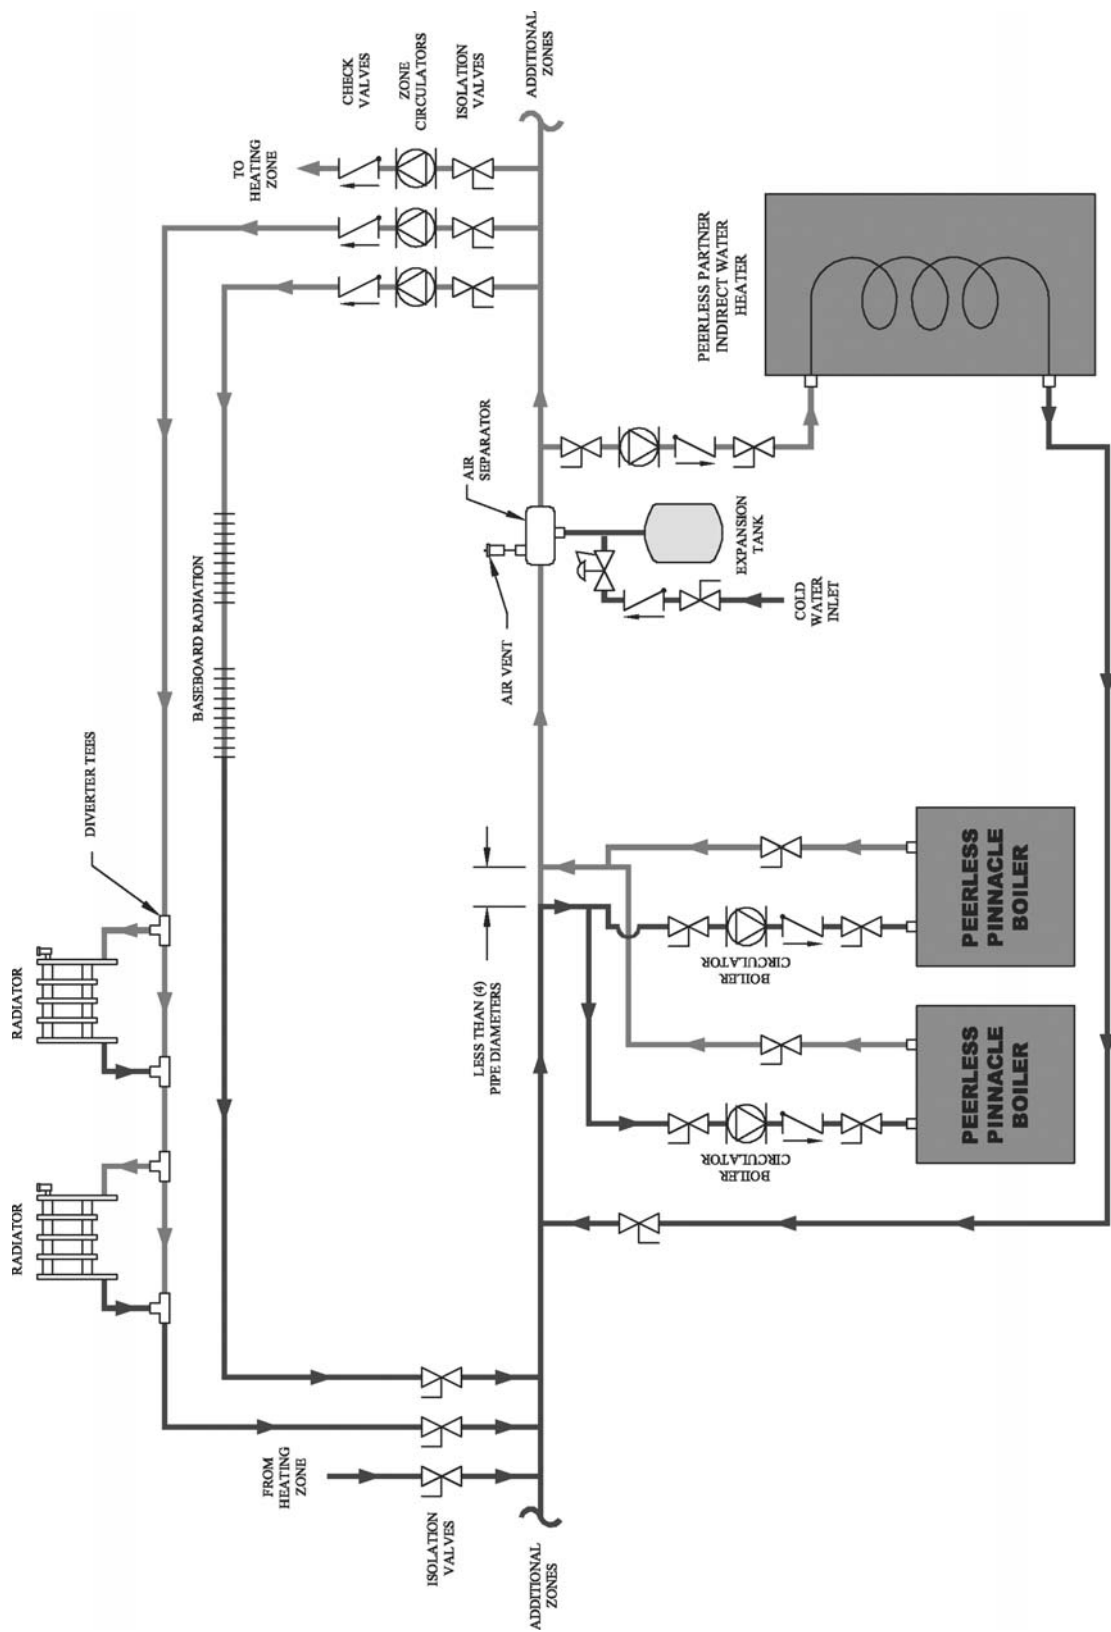

Figure 3.5
- c. Figure 3.5: This figure shows diverter tees used in combination with conventional hydronic radiators on an additional zone. Also, a second boiler is shown piped in parallel with the first. It is important that the common headers are sized to match the system piping. Smaller headers may result in flow fluctuations through the boilers.